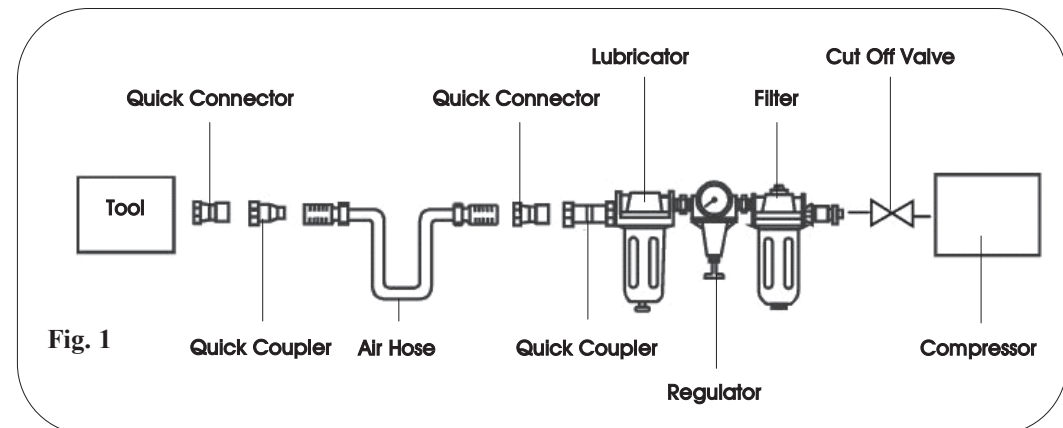

Fig. 1
- An automatic in-line filter-regulator-lubricator is recommended (Fig.1) as it increases tool life and keeps the tool in sustained operation. The in-line lubricator should be regularly checked and filled with air tool oil.
1. Ensure the air drill trigger (2) is not depressed before connecting to the air supply.
5. Recommended hook-up procedure is shown in fig 1.